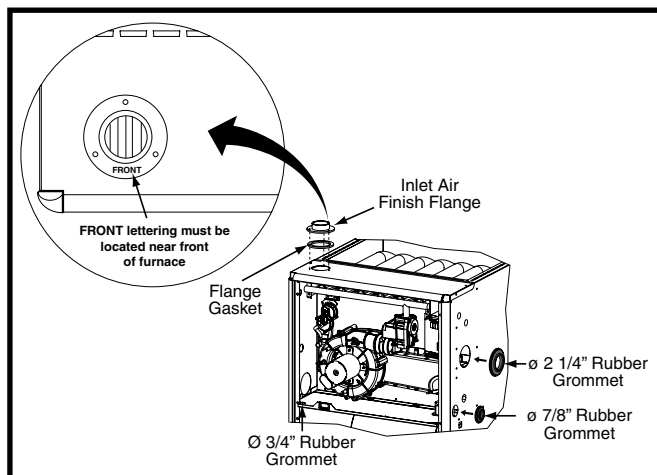
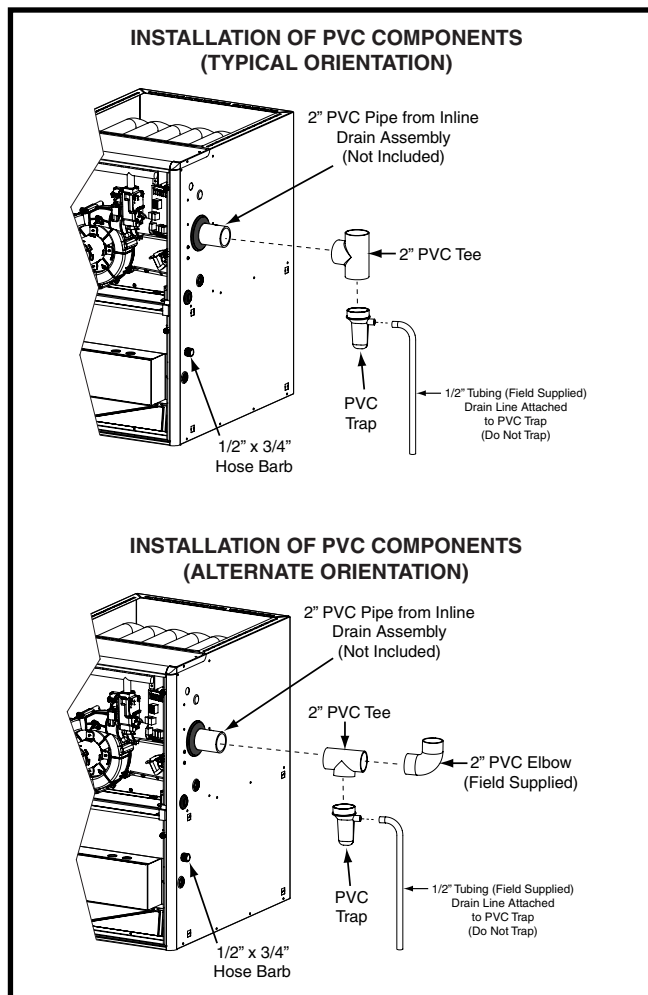

Figure 14. Finish Flange & Rubber Grommets
Figure 15. PVC Components
The components in Figure 14 & Figure 15 are included in the extra parts bag supplied with the purchase of J952V*U furnaces. Depending on your particular installation, some of these components are optional and may not be used. Please refer to the descriptions and accompanying figures when installing these items.
NOTE: Make sure the flange is properly oriented so that the FRONT lettering is located near the front of the furnace as shown in Figure 14.
The 2 1/4" rubber grommet is used to seal the opening between the furnace cabinet and the 2" PVC vent pipe. The rubber grommet should be installed in the 3" hole prior to running the vent pipe out of cabinet. No sealants are required. See Figure 14.
- The 2" PVC pipe shown in Figure 15 is not provided in the extra parts bag.
The 2" PVC Tee and Trap are used when the inducer is rotated to vent out thru the left or right side of the furnace cabinet. See Figure 15.
1. Install the PVC Tee vertically on the 2" vent pipe that is extending out the side of the cabinet. Permanently bond them together using appropriate primer and cement. Refer to the typical orientation shown in Figure 15.
1. Install the 2" PVC Tee horizontally on the 2" vent pipe that is extending out the side of the cabinet. Permanently bond them together using appropriate primer and cement. Refer to the alternate orientation shown in Figure 15.